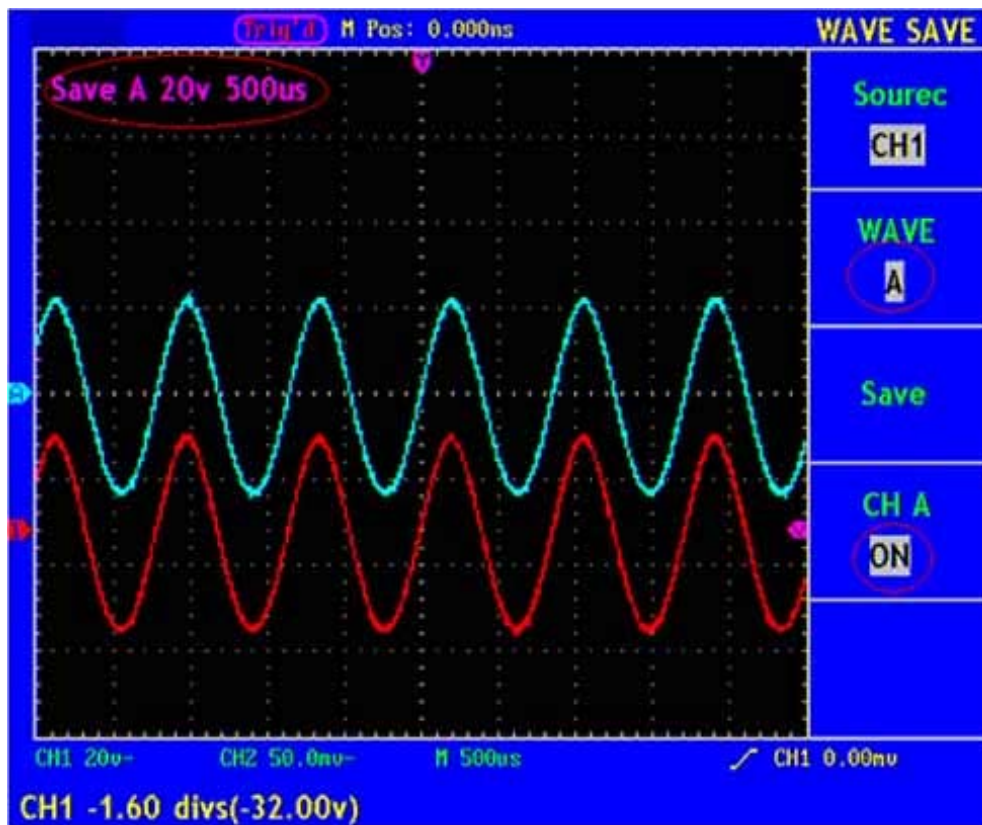

Fig. 46 Wave Saving
4. Press the **F4** menu selection button and choose **ON** for CHA. The stored wave form A will be displayed in the screen. The voltage level and time base level will also be shown at the upper left corner of the display area at the same time (see Fig. 46).